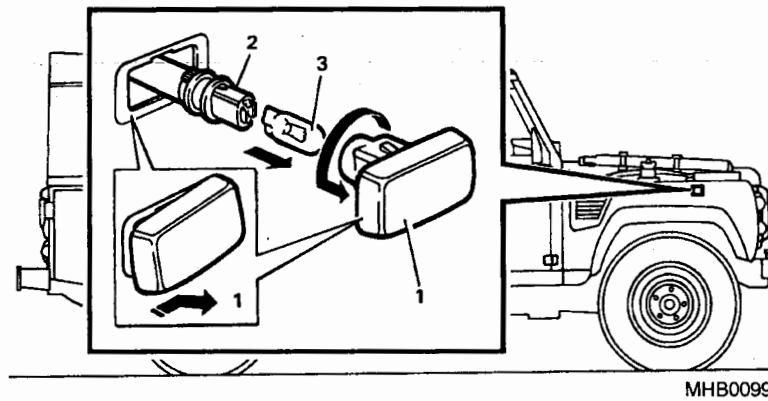

Fig 10 Side repeater lights
- 13.2 Push the lens (Fig 10 (1)) forward and pull outward to detach lens and bulb holder (2) from vehicle.